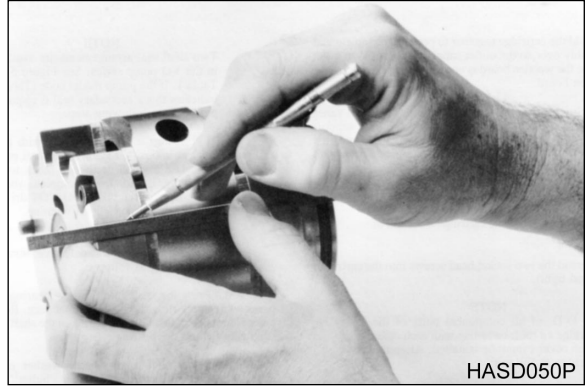

Figure 7
NOTE: 4535V models are slightly different from the models shown in Figure 7. Screws (4) are longer and fasten cover (5), inlet housing (19), and body (38) together. Screws (18) are omitted.